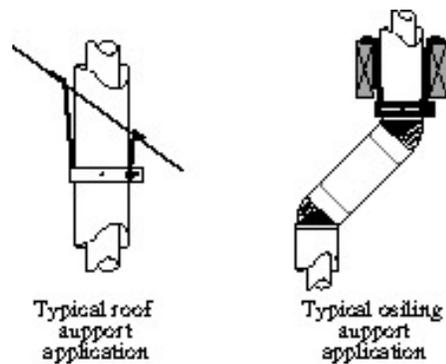
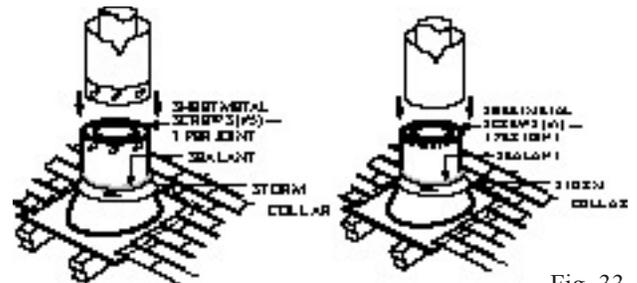

Fig. 32
Fig. 33
7. Install roof support (Fig. 32) and roof flashing making sure the upper flange of the flashing is under the shingles. Fig. 33.
8. Install appropriate pipe sections until the flue is above the flashing. (See Fig. 33).